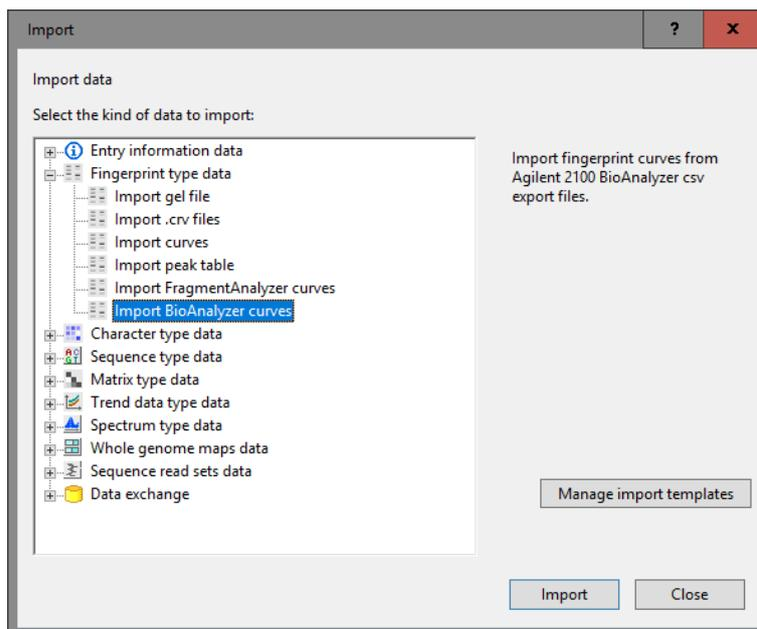

Figure 7: The *Import* dialog box.
1. Select **File** > **Import...** (📁, **Ctrl+I**) to call the *Import* dialog box (see Figure 7).